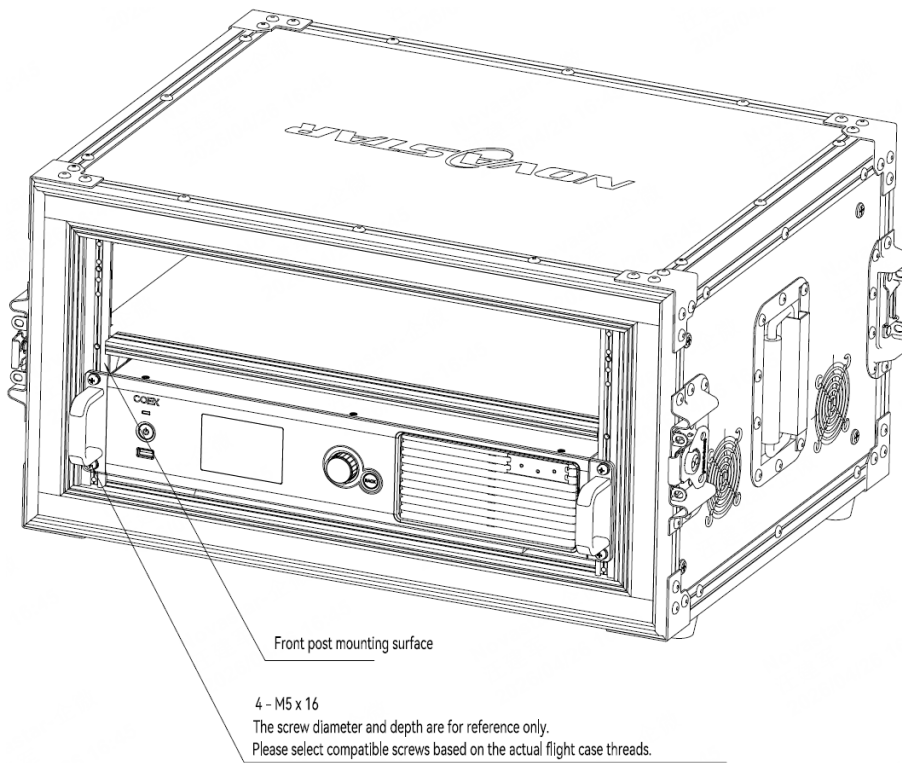

Figure 2
2. Secure the front panel with 4 screws, as shown in Figure 2. The screw type should be selected based on the actual flight case.